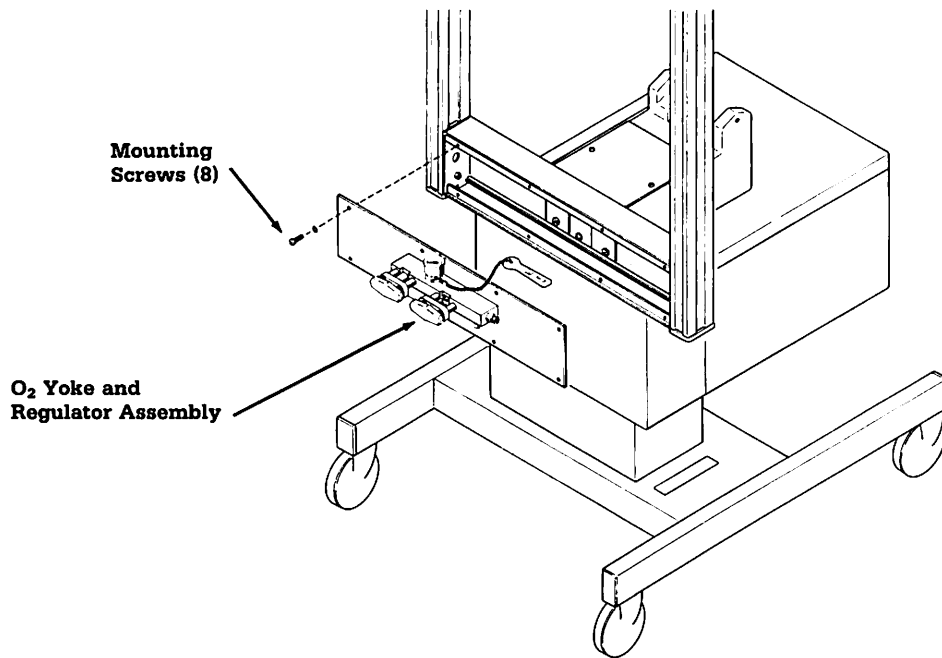

Figure 5-22. Manifold Assembly Removal.
F. High Pressure Regulator Repair (Figure 5-22 and 5-23)